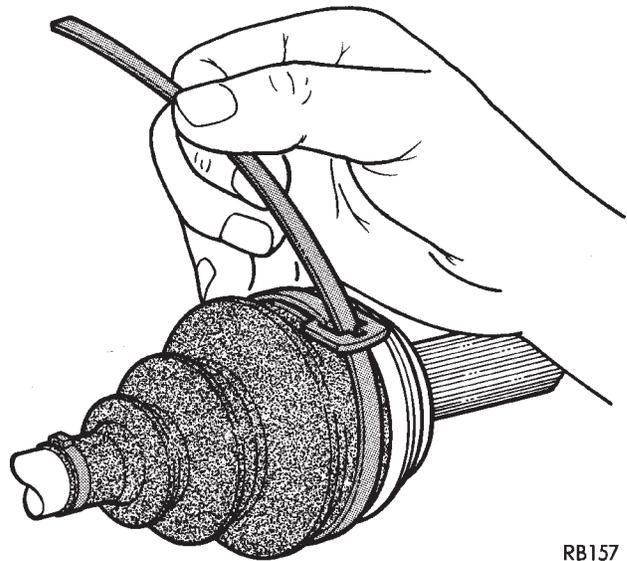

Fig. 4 Wrap Strap (through Buckle Eye) Twice
- (6) Put the strap around the boot with the eye of the buckle toward you (Fig. 4). Wrap the strap